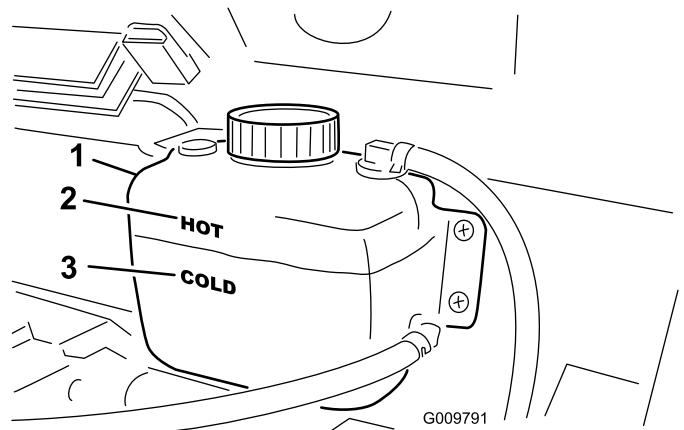

Figure 15
2. Check the coolant level on the side of the reserve tank (Figure 15). The coolant should be up to the Cold line, when engine is cold.